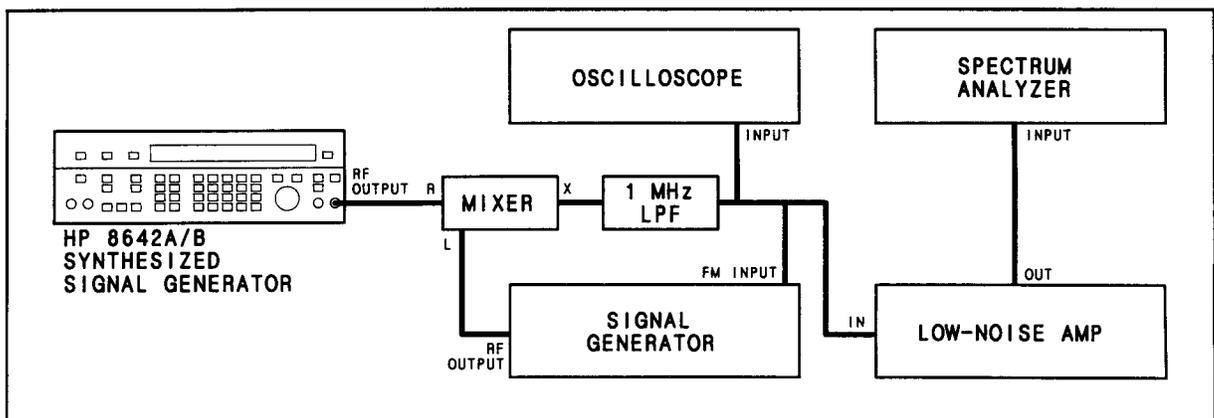

Figure 4-12. SSB Phase Noise Test Setup (Optional)
1. Connect the instruments as shown in Figure 4-12. On the LO, select external DC FM and 1 kHz FM deviation. Insure that the spectrum analyzer center frequency calibration is accurate.